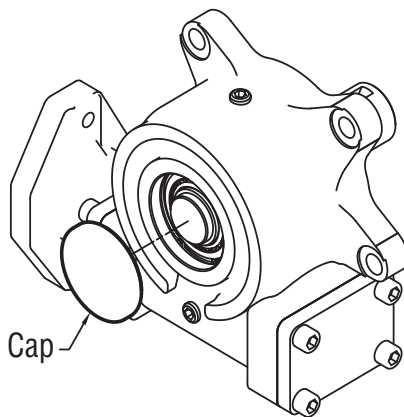

Figure 5-10, Output Shaft Cap
8. The output shaft fits tightly, so you may need to remove the cap on the back of the gearbox and lightly tap the end of the output shaft with a rubber mallet to remove it. (Figure 5-10)